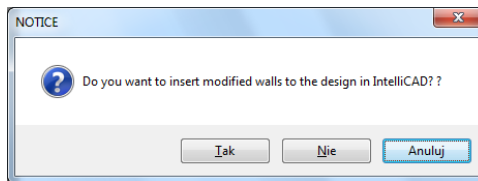

Fig. 89 – confirmation of changes introduced to walls
After each change of walls layout in **Wall Editor** you will see the message presented below (Fig. 89) when you attempt to close the **Editor** to go back to work environment. To confirm that the walls should be modified, click **Yes**. To drop the changes click **No**. To go back to **Editor** and introduce more changes click **Cancel**.
- if the parameters are specified incorrectly resulting in inserting an element in the location of an element previously inserted one, a collision message will display (Fig. 89).